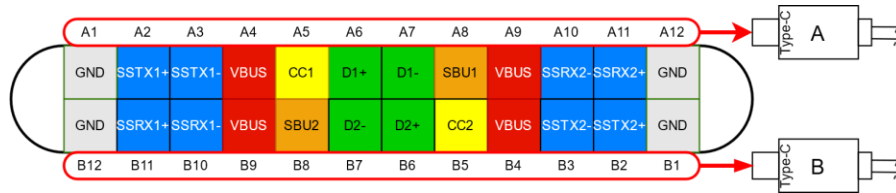

Figure 18: USB Type-C Connector Detail
- Figure 18 illustrates which CC line is used for Power Delivery negotiation in subsequent application notes and diagrams that specify orientation. For example, diagrams showing connectors with “A” use CC1 for PD communication.